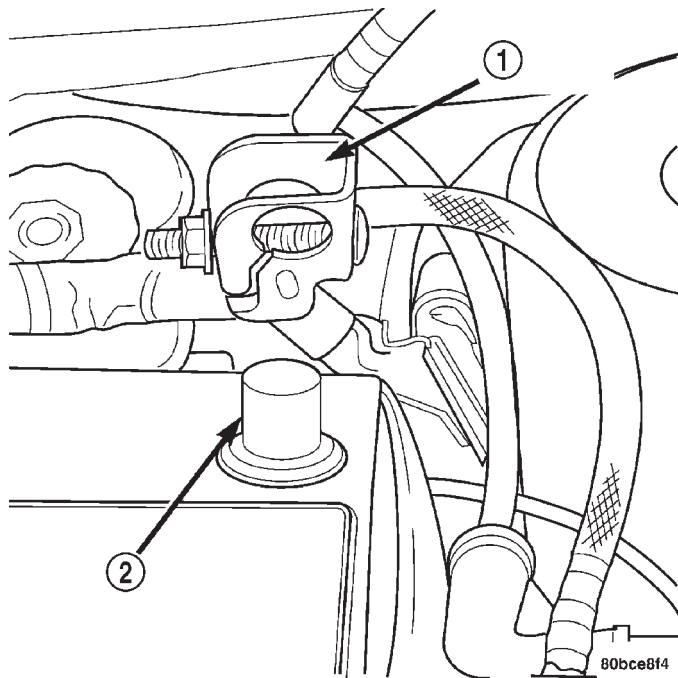
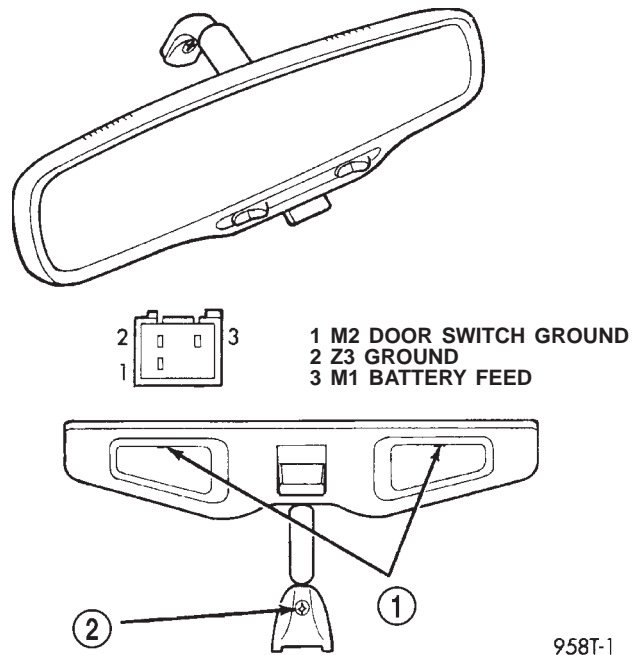

Fig. 1 Battery Negative Cable Remove/Install
Fig. 2 Mirror/Reading Lamps
(1) Disconnect and isolate the battery negative cable (Fig. 1).
(2) Disconnect wiring connector.
(3) Loosen mirror set screw (Fig. 2).
(4) Lift mirror from mounting button.
- (1) Using a small thin blade tool, pry at the center of the lens nearest the mirror to remove lens (Fig. 2).
- (2) Remove cartridge lamp and replace if necessary.
- (1) Disconnect and isolate the battery negative cable (Fig. 1).
- (2) Using a trim stick (special tool #C-4755) or equivalent, gently pry up on window switch bezel and remove from door trim panel.
- (3) Disconnect wire connector from switch.
- (4) Remove two switch retaining screws.